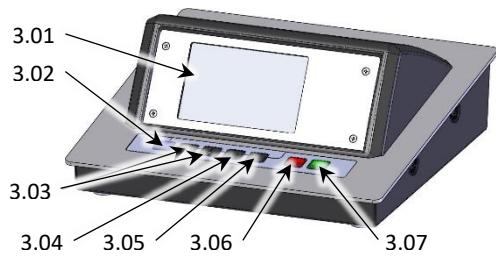

Fig. 3 Electronic unit front
- Plug the 15-pin Sub-D plug of the BE 4 - DTE II supply cable into the socket (3.09, Fig.3) of the electronic unit and tighten the screws.